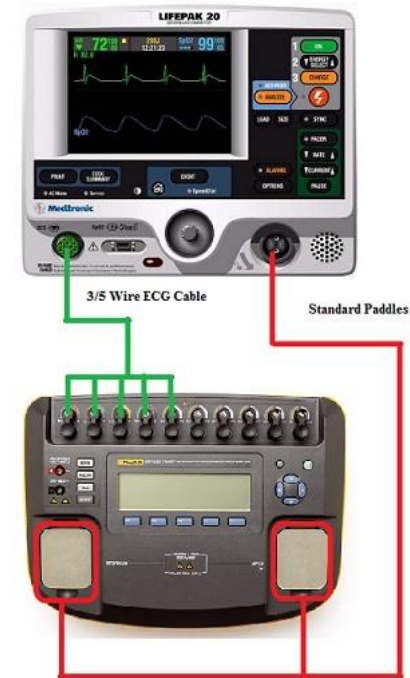

Figure 1.21: Standard Paddles Defibrillator Energy Test Setup
1. Establish the setup as shown in Figure 1.21.